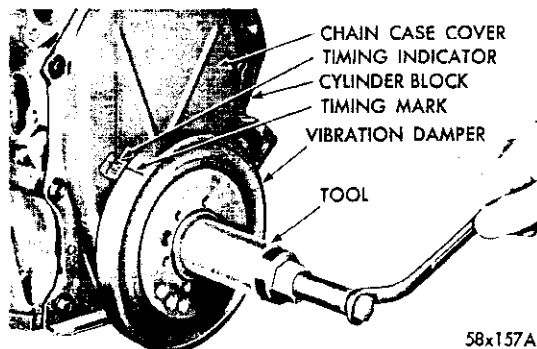

Fig. 32—Installing Vibrator Damper Assembly
(2) Place the installing tool, part of puller set Tool C-3688 in position and press the damper on the crankshaft (Fig. 32).
(3) Install the damper retainer washer and bolt. Tighten to 135 foot-pounds torque.
(4) Slide the belt pulley over the shaft and attach with bolts and lockwashers.
(5) Tighten the bolts to 15 foot-pounds torque.